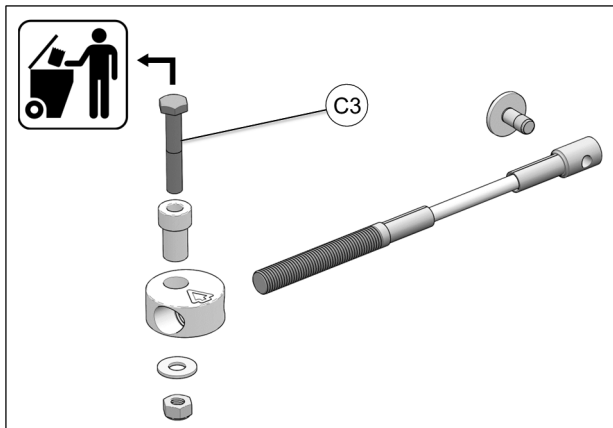

Fig. 20
12. Remove and discard M10 bolt (**C3**) from steering limiter cable parts kit as shown in Fig. 20